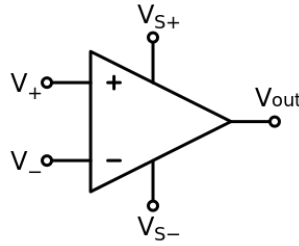

Figure 6: Operational amplifier
6. Determine voltages v_1 through v_3 in the circuit of Fig. 6 using nodal analysis.